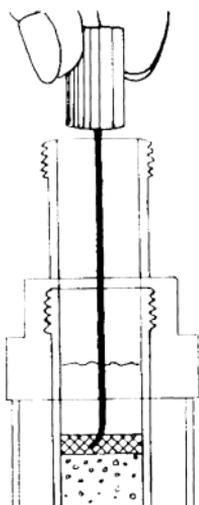

Fig 1.
5. Carefully and slowly bring up the loose filter by using the hook (part of the Filter tool), see Fig. 1. Do not press or puncture the gel bed.